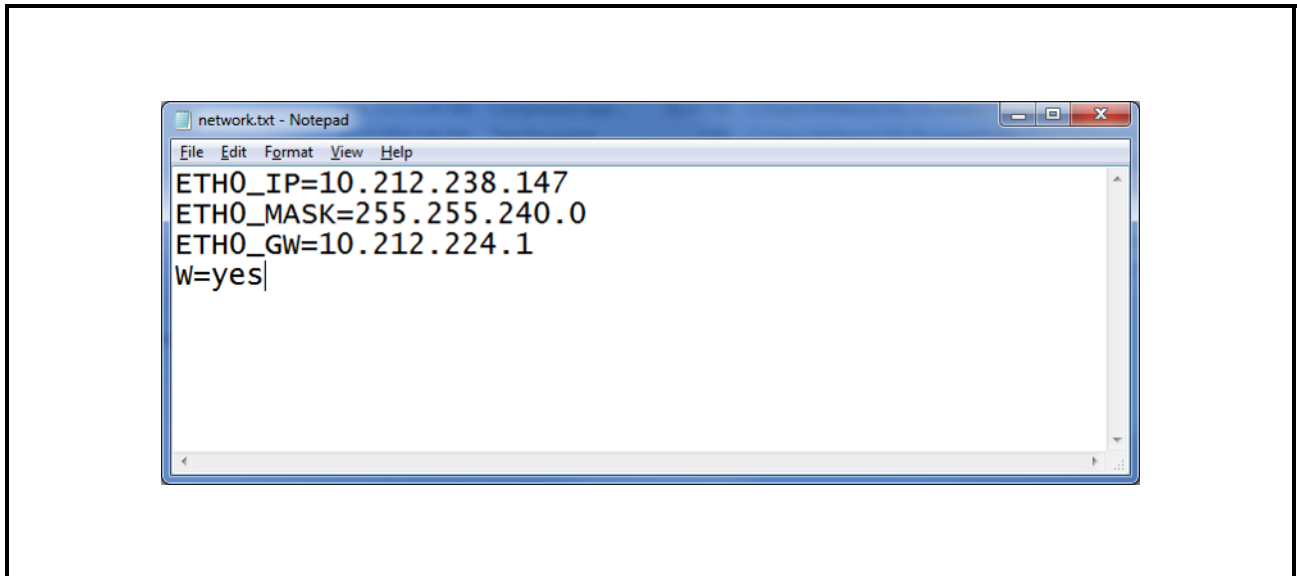

Figure 8-15 - Network.txt Notepad
1. Create a “network.txt” with your desired settings (*Figure 8-15*):